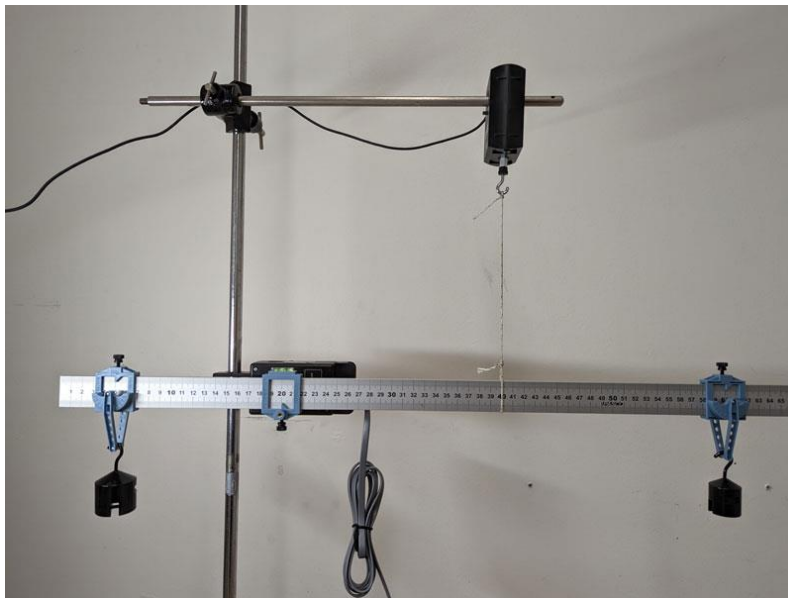

Figure 6 – Part 7 Setup
- On the table there is a piece of string with one end tied in a big loop and the other in a small loop. Slide the big loop around the ruler until it is at 40 cm. Have the small loop hang on the hook on the Force Sensor which is hanging from a stand. Adjust the Force Sensor until the meter stick is horizontal by changing its position on the bar and its height. See Figure 6.